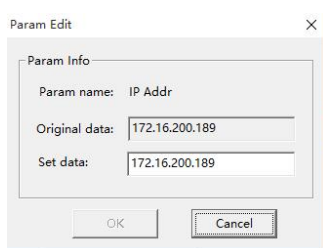

Figure 3
④ In the option dialog box, double-click the IP address item to pop up the IP address parameter modification dialog box, enter the IP address to be set in the new data, and click OK to confirm. The modification of subnet mask is the same as that of gateway. As shown in figures 3, 4 and 5: